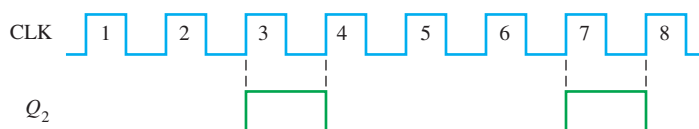

FIGURE 9–81
41. Solve Problem 40 if the Q_2 output has the waveform observed in Figure 9–81. Outputs Q_0 and Q_1 are the same as in Figure 9–80.
42. You apply a 5 MHz clock to the cascaded counter in Figure 9–41 and measure a frequency of 76.2939 Hz at the last RCO output. Is this correct, and if not, what is the most likely problem?
43. Develop a table for use in testing the counter in Figure 9–41 that will show the frequency at the final RCO output for all possible open failures of the parallel data inputs (D_0 , D_1 , D_2 , and D_3) taken one at a time. Use 10 MHz as the test frequency for the clock.
44. The tens-of-hours 7-segment display in the digital clock system of Figure 9–48 continuously displays a 1. All the other digits work properly. What could be the problem?
45. What would be the visual indication of an open Q_1 output in the tens portion of the minutes counter in Figure 9–48? Also see Figure 9–49.
46. One day (perhaps a Monday) complaints begin flooding in from patrons of a parking garage that uses the control system depicted in Figures 9–51 and 9–52. The patrons say that they enter the garage because the gate is up and the FULL sign is off but that, once in, they can find no empty space. As the technician in charge of this facility, what do you think the problem is, and how will you troubleshoot and repair the system as quickly as possible?
49. What changes are required to the logic diagram in Figure 9–64 to modify the elevator controller for a four-story building?
51. Modify the design of the counter in Figure 9–41 to achieve a modulus of 30,000.
53. Modify the digital clock in Figures 9–48, 9–49, and 9–50 so that it can be preset to any desired time.
55. Modify the design of the circuit in Figure 9–52 for a 1000-space parking garage and a 3000-space parking garage.
56. Implement the parallel-to-serial data conversion logic in Figure 9–53 with specific fixed-function devices.